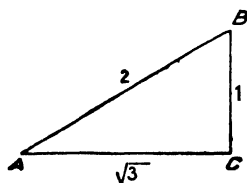

Fig. 4.
- (1) 40, 9, 41.
- (2) 8, 15, 17.
- (3) 5, 12, 13.
- (4) 196, 315, 371.
8. Given one function of an angle to find the other functions. Suppose we have given $\sin A = \frac{1}{2}$, and the other five functions are required. We construct a right triangle ACB (Fig. 4) calling the opposite side 1 and the hypotenuse 2. We can do this because